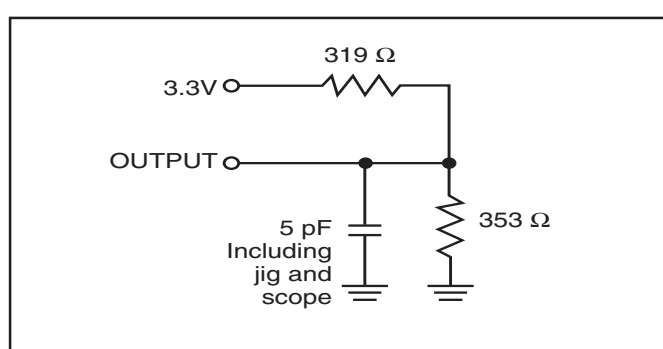

Figure 2.
2. Tested with the load in Figure 2. Transition is measured ± 500 mV from steady-state voltage.
2. Tested with the load in Figure 2. Transition is measured ± 500 mV from steady-state voltage. Not 100% tested.